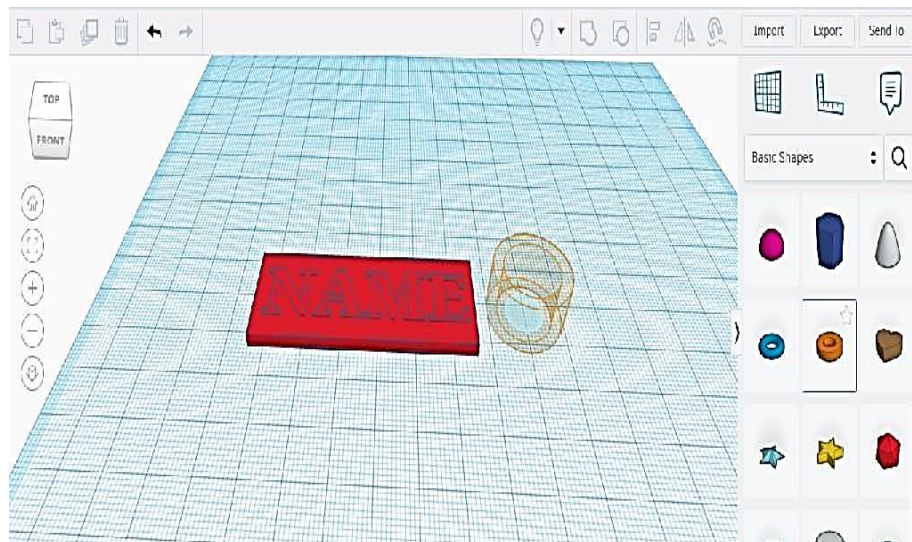

Fig. 4.18: Selection of Tube Shape from the Basic Shapes
7. Scroll to the bottom of your Basic Shapes menu and drag a tube onto the Work plane (Fig. 4.18).